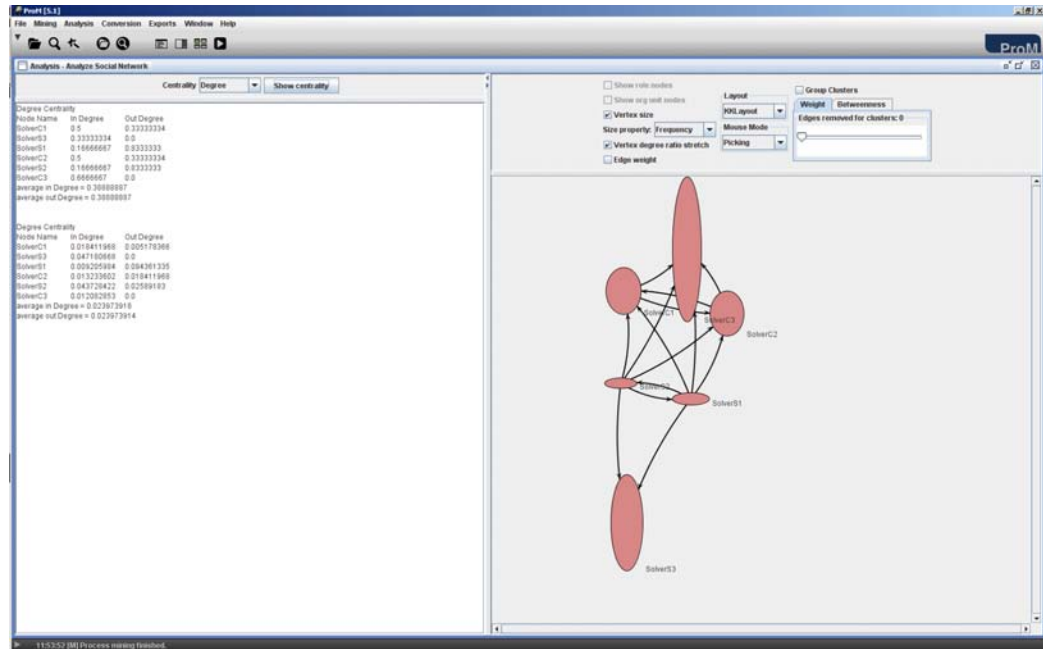

Figure 3.6: Screenshot of the mining plug-in *Analyzer Social Network*.
5. Run the *Analyze Social Network* by choosing the menu option *Analysis*  $\rightarrow$  *SNA*  $\rightarrow$  *Analyze Social Network*. Select the options “Vertex size”, “Vertex degree ratio stretch” and set *Mouse Mode* to “Picking” (so you can use the mouse to re-arrange the nodes in the graph). The resulting graph (cf. Figure 3.6) shows which employees handed over work to other employees in the process instances of our running example. By looking at this graph, we can see that the employees with roles “SolverS3” and “SolverC3” outperform the other employees because the telephones these two employees fix always pass the test checks and, therefore, are not re-sent to the Repair Department (since no other employee has to work on the cases involving “SolverS3” and “SolverC3”). The oval shape of the nodes in the graph visually expresses the relation between the *in* and *out* degree of the connections (arrows) between these nodes. A higher proportion of ingoing arcs lead to more vertical oval shapes while higher proportions of outgoing arcs produce more horizontal oval shapes. From this remark, can you tell which employee has more problems to fix the defects?